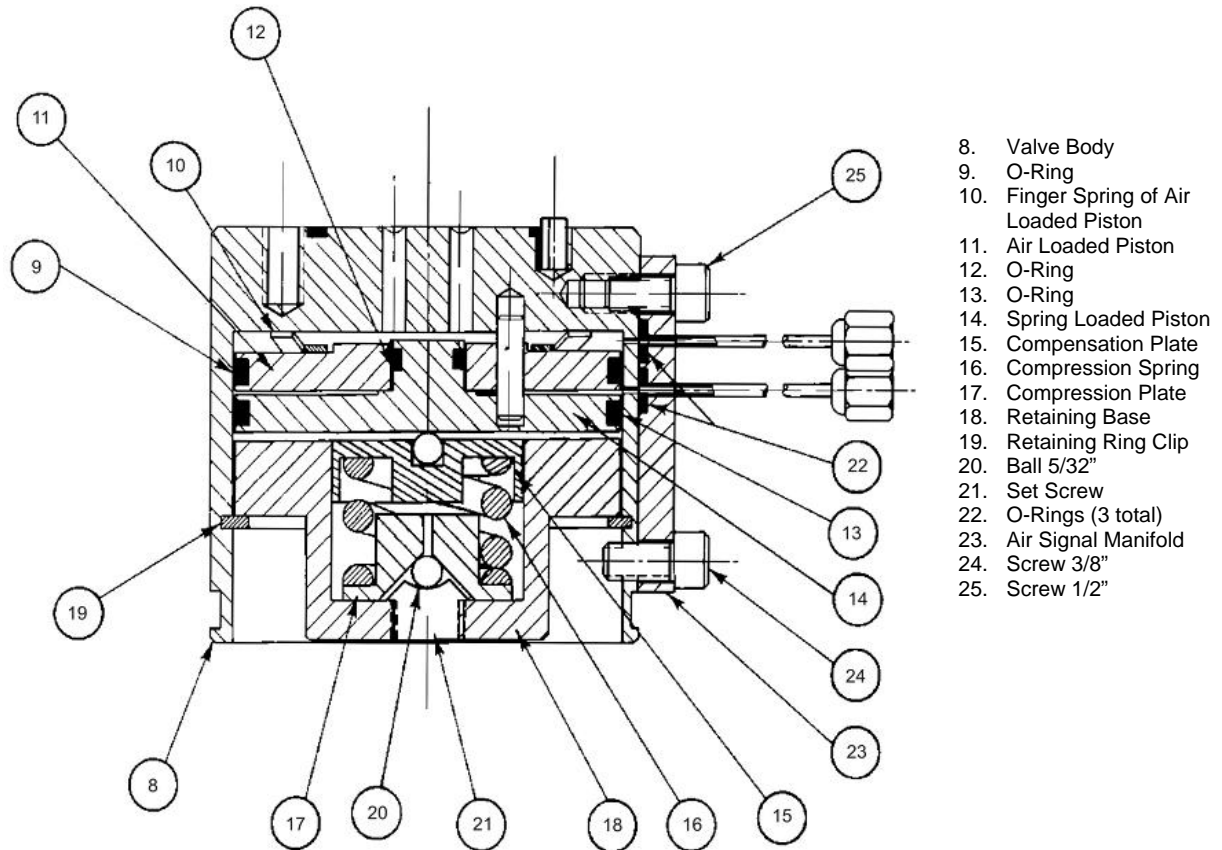

Figure 4-37: Model 11 (or Model 11 LDV) Valve Without Valve Cap
This section presents the user with the necessary information to perform fault diagnostic testing, maintenance and repair and installation of the Model 11 Valve and the Model 11 Low Dead Volume Valves. These valves are actuated by air pressure. To ensure optimum valve operation, a clean contaminant free operating environment is required at all times. Refer to Figure 4-37.
1.	Relieve the pressure on the base Allen Set Screw (21) by turning it counterclockwise until it turns easily. Refer to Figure 4-37.